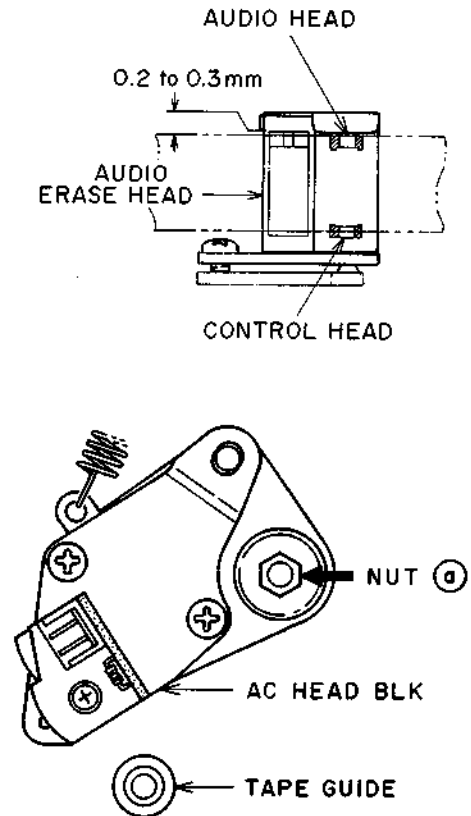

Fig. 6-9
1) Turn the NUT (a) for coarse AC BLOCK height adjustment as in Fig. 6-9.
- 3) Slightly turn the NUT (a) to obtain the maximum audio output shown in Fig. 6-9.